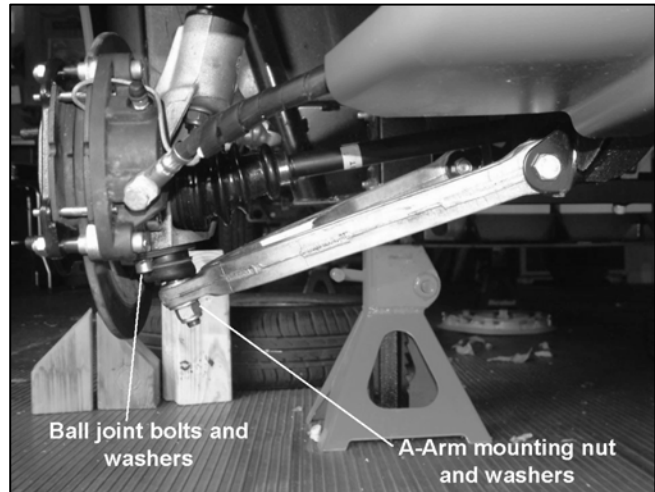

Figure 6-10
2. Remove a-arm mounting nut and washer (Figure 6-10).
4. Disconnect ball joint from hub assembly (Figure 6-10).
4. Connect ball joint to hub assembly (Figure 6-10).